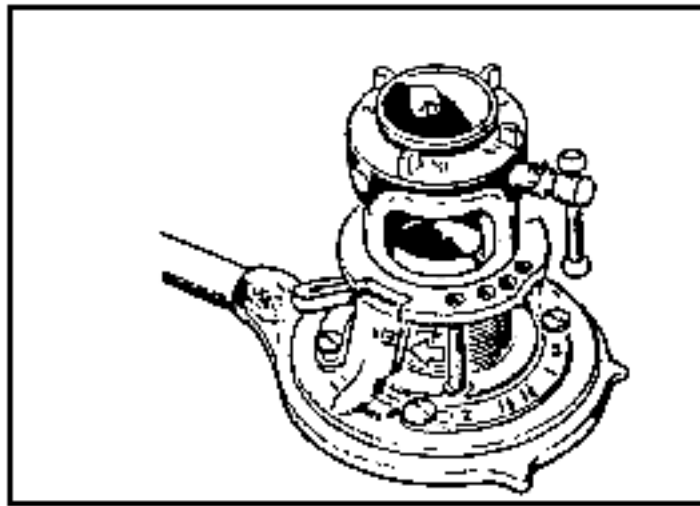

Figure 052-248-1000-1
- (1) Store the blades in a dry place. Apply a light coat of oil to the blades when not in use in order to avoid rusting.
- (2) Avoid placing heavy tools or objects on the saw blades as this can result in a distortion of the blade.
- (3) Adjust the wing nut to ensure proper tension of the blade.
c. Maintain the pipe threaders (Figure 052-248-1000-1).